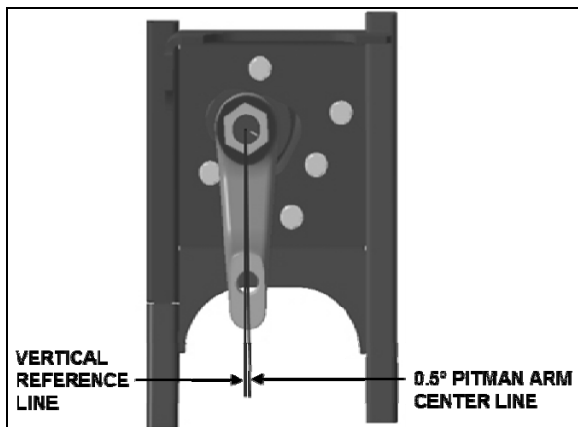

FIGURE 24: IFS PITMAN ARM ALIGNMENT
4. Check that the angular relationship of the pitman arm to the steering gear is as shown in figure 24.